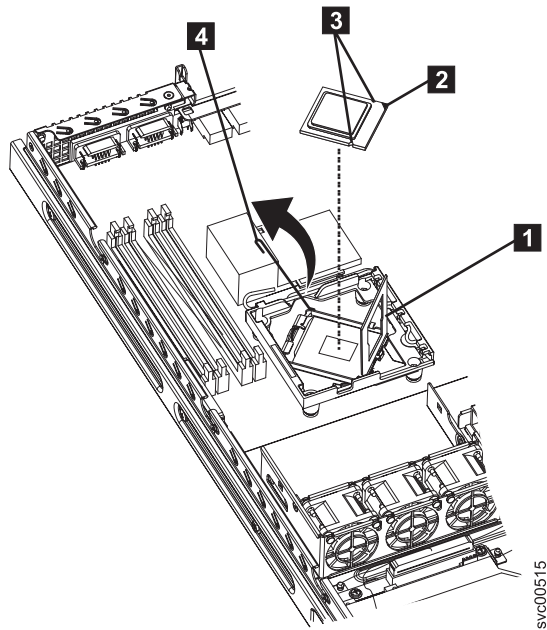

Figure 256. SAN Volume Controller 2145-8A4 microprocessor
1. Make sure that the microprocessor bracket frame **1** and release latch **4**, shown in Figure 256 on page 233, are both fully open.
2. Align the microprocessor with the socket as shown in Figure 256. (Note the alignment mark **2** and the position of the notches **3**.)